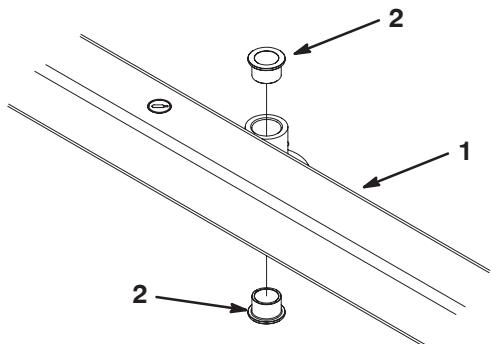

Figure 23
4. Insert pin punch into top or bottom of bumper and drive bushing out of tube (Fig. 23). Also drive other bushing out of bumper. Clean inside of bumper to remove any dirt.